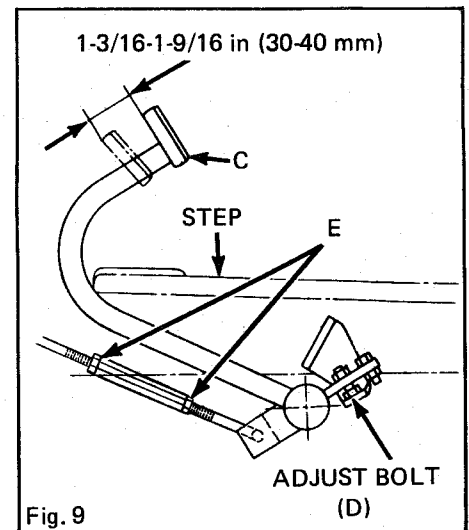

Fig. 9
Free play of pedal (C) Figure 9 should be 1-3/16" - 1-9/16" (30 - 40 mm).
To adjust clutch pedal, loosen two nuts (E) Figure 9 and turn turnbuckle to obtain proper free play. Tighten both nuts. Check operation of safety switch after adjusting clutch pedal. Adjust bolt "D" to obtain 1/4" switch travel when pedal is depressed.